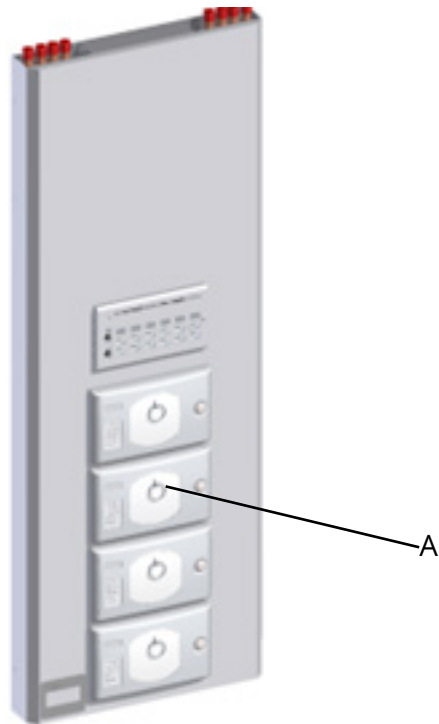

Figure 2 Valve access
1. Unpack the pressure switches and connect to the alarm leads (ref. Pressure Switch Installation Manual, Figure 2).